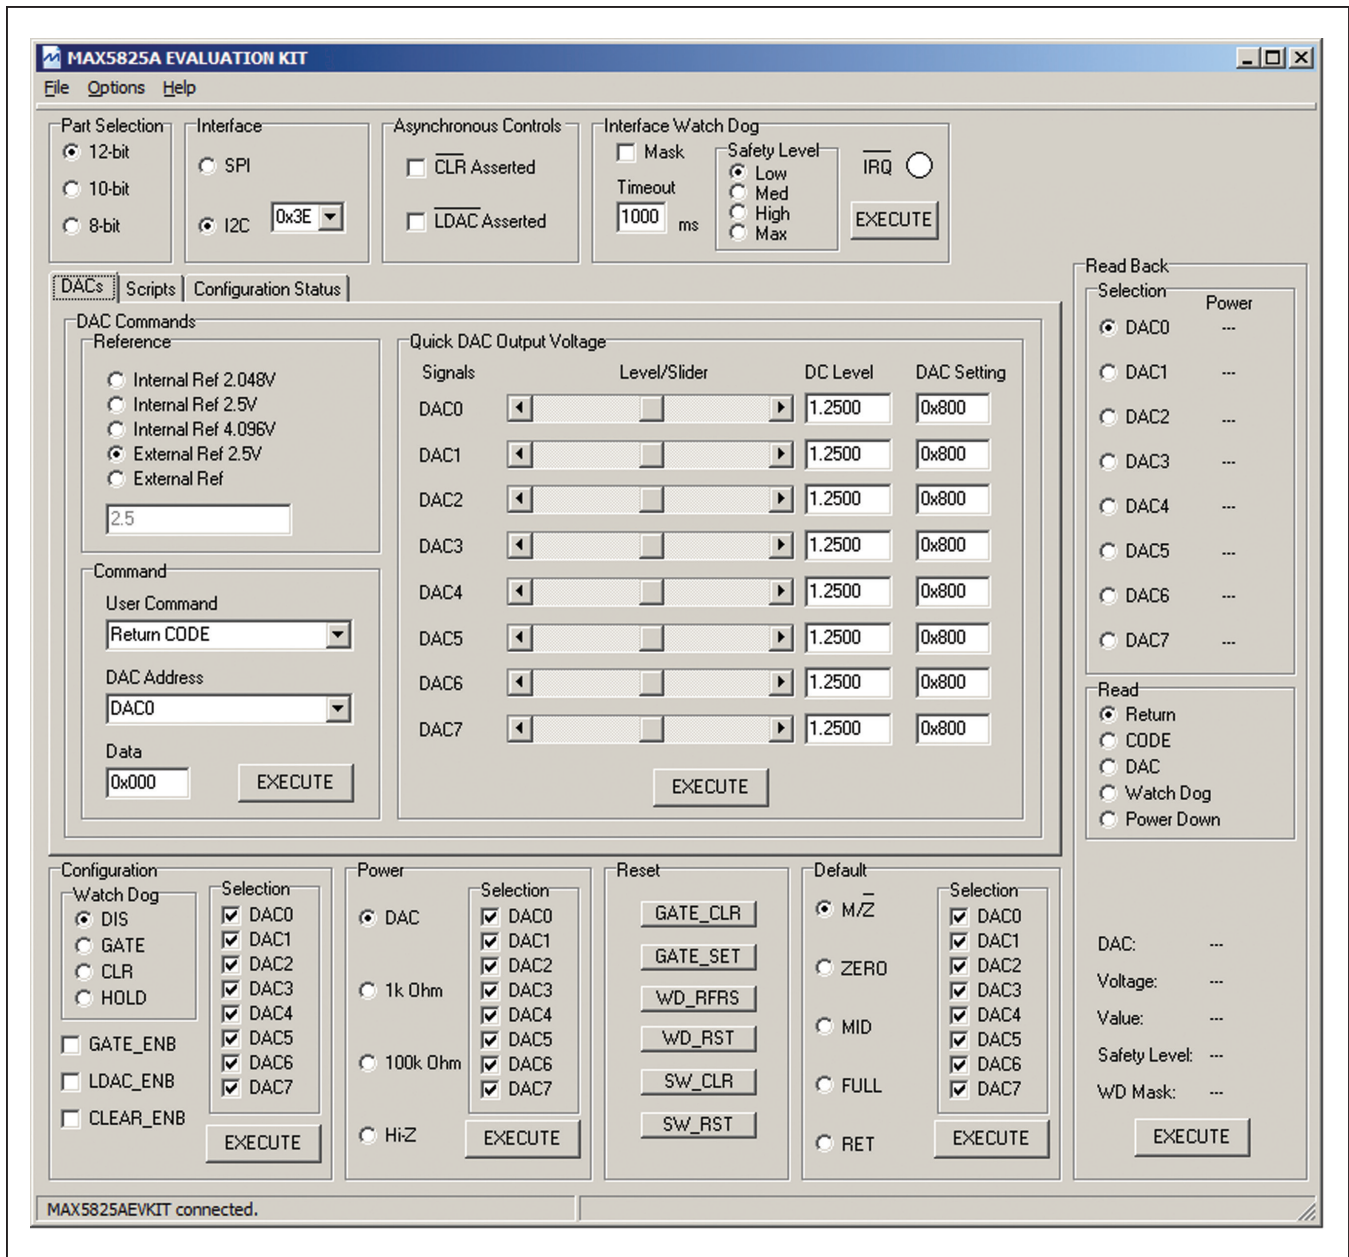
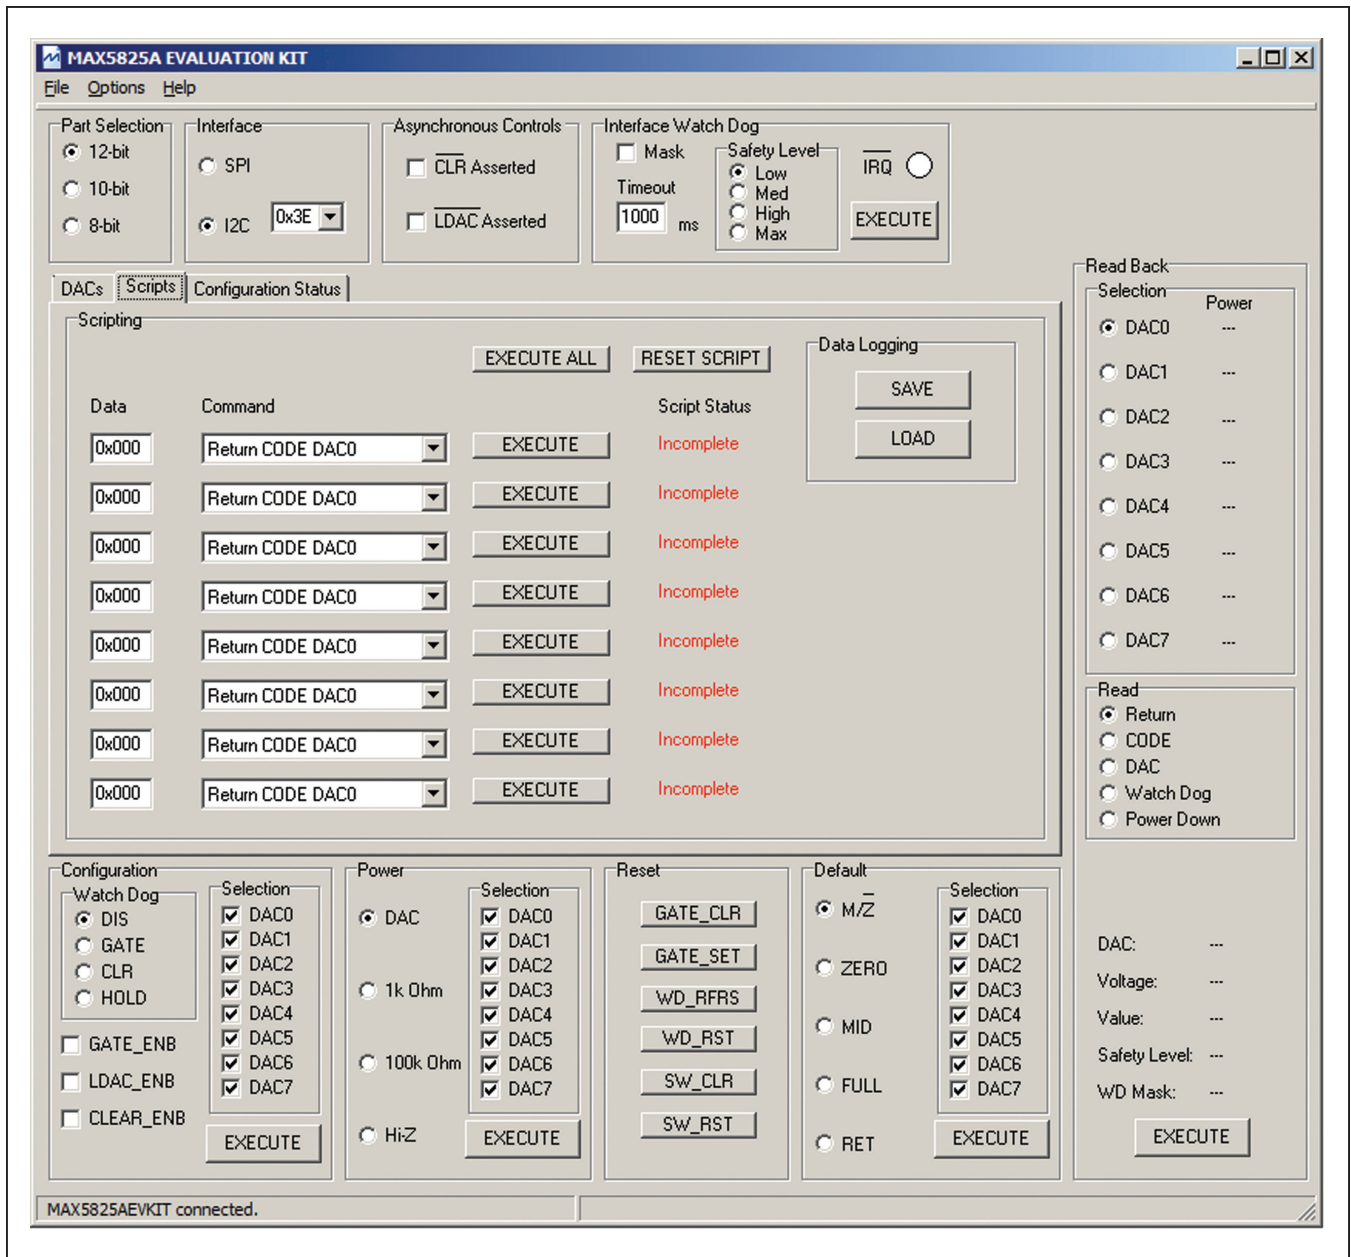
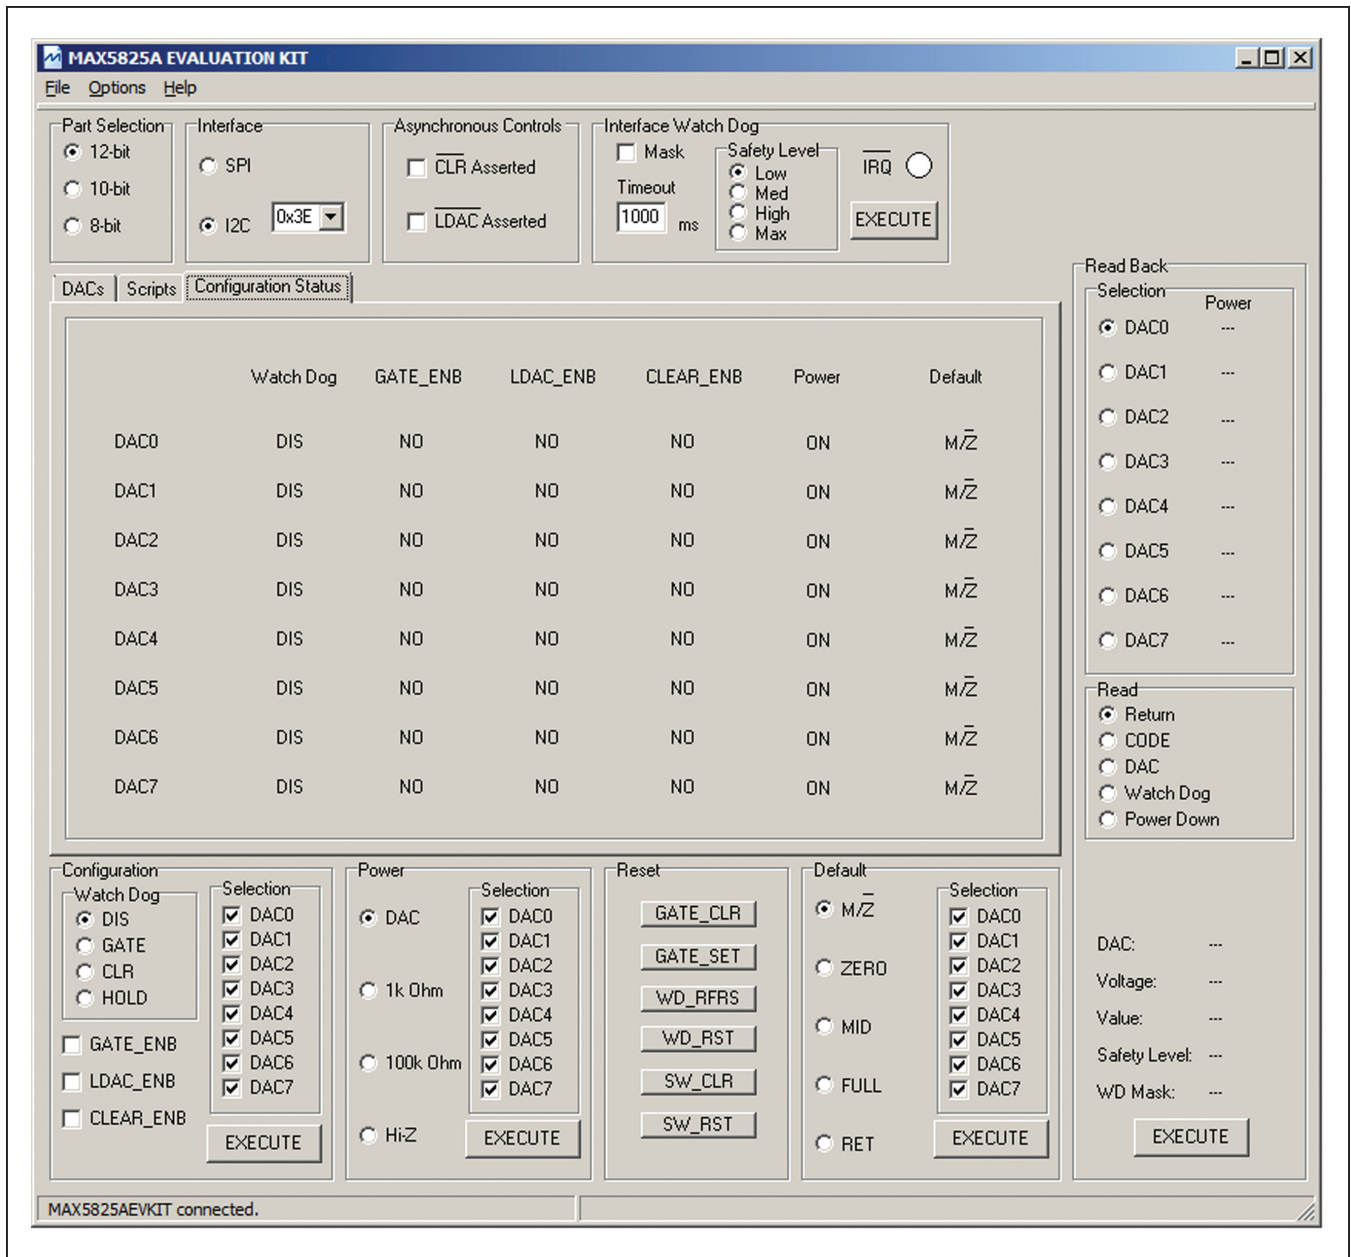

Figure 2. MAX5825A EV Kit Software Main Window (DACs Tab)
Figure 3. MAX5825A EV Kit Software Main Window (Scripts Tab)
Figure 4. MAX5825A EV Kit Software Main Window (Configuration Status Tab)
- 5) Start the EV kit software by opening its icon in the **Start | Programs** menu. The EV kit software main window appears, as shown in Figure 2.
The MAX5825A EV kit software evaluates the MAX5825A I²C interface family of 12-/10-/8-bit DACs. The main software window has three tabs: **DACs**, **Scripts**, and **Configuration Status**. Within the **DACs** tab sheet (Figure 2), the user can set the reference and the DAC outputs. The **Scripts** tab sheet (Figure 3) allows the user to send a sequence of write commands to the eight DACs and load and save the write sequence. The **Configuration Status** tab sheet (Figure 4) displays the configuration settings for each DAC. In addition, the software also allows the user to adjust the configuration, power, reset, and default settings.
Within the **DACs** tab sheet shown Figure 2, the user can set the output of the DACs with two options. The first option is the **Quick DAC Output Voltage** group box that allows the user to write and load the CODE to all DACs. Set the desired output for each DAC using the corresponding slider and press the **EXECUTE** button. The second option is to write the return CODE, write the CODE, load the CODE, or write and load the CODE to the desired DAC using the drop-down lists and edit box within the **Command** group box. Press the **EXECUTE** button once all the settings are appropriately configured.
Within the **Scripts** tab sheet shown in Figure 3, enter the desired **Data** on the left and choose the appropriate **Command** from the drop-down list in the **Scripting** group box. Pressing the **EXECUTE** button writes to the CODE and/or DAC registers and the **Script Status** changes from **Incomplete** to **Complete**. Refer to the MAX5825A IC data sheet for a list of possible commands. If a sequence of commands needs to be performed, adjust all **Data** edit boxes and **Commands** drop-down list accordingly, and press the **EXECUTE ALL** button. To reset the **Script Status** to **Incomplete**, press the **RESET SCRIPT** button.
The **Configuration Status** tab sheet shown in Figure 4 displays the current status of the configuration, power, and default settings for each DAC.